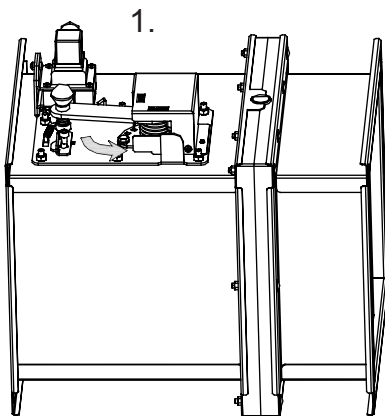

Fig. 12 Closing the damper
1. Put the fire damper into closed position. (Fig. 12)